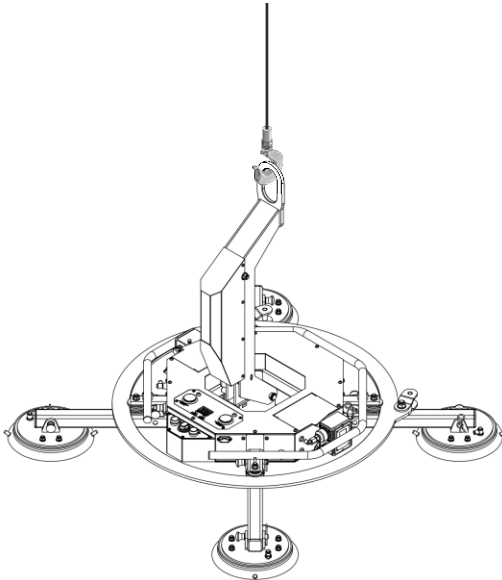

Figure 2.1
**Step 1:** Adjust the vacuum pads horizontally and attach the lever arm to the lifter (Figure 2.1).